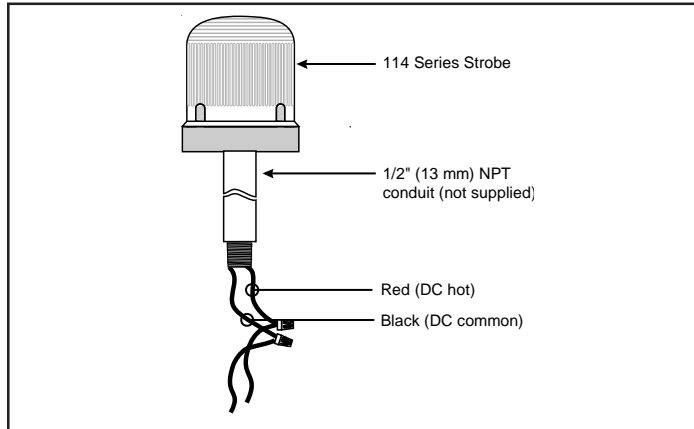

Figure 1. Conduit Mounting
Conduit Mounting (Figure 1)
3. Using wire nuts (not supplied), connect the signal's wire leads as shown in Figure 1. Polarity must be observed.
1. **Conduit Mounted Modules:** Disconnect wiring and, if necessary, unscrew base from conduit (Figure 1).